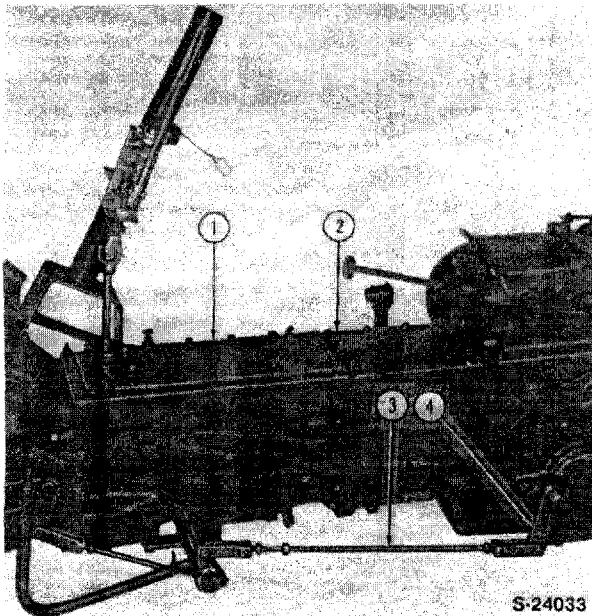

Figure 30
18. Remove the transmission cover (1) and rear cover (2), Figure 30.
24. Remove the transmission cover, Figure 30.